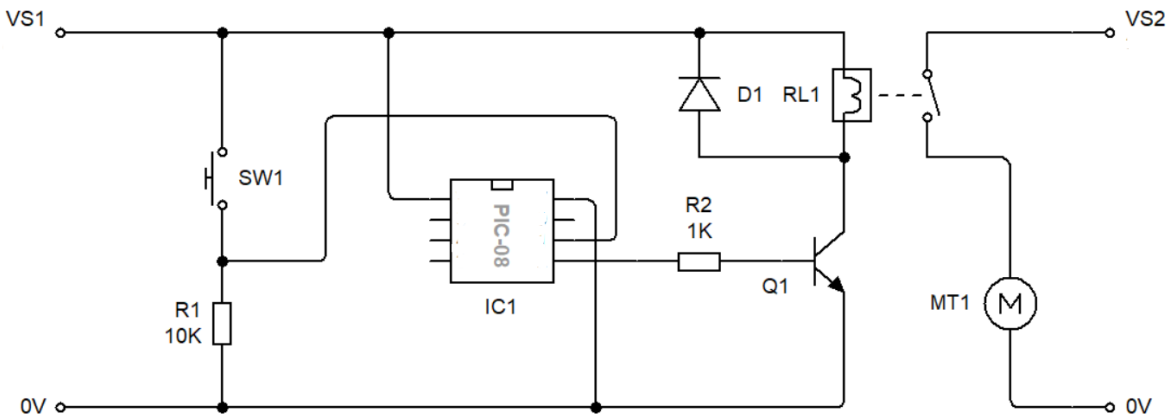

Figure 10
18. An interactive installation of a fire truck was put up on one of the kids' area walls. The installation consists of rotating parts to keep the kids occupied. Figure 10 shows the proposed circuit.
a. On Figure 10, circle the **TWO** components that are within the INPUT section of this system. (1)
b. SW1 functions as a non-latching switch. Name **ONE** suitable non-latching switch which is suitable for the intended users of this game. (1)
c. The circuit designer decided to add a latching switch to the circuit, in order to switch off the circuit completely. On Figure 10 indicate by drawing an X, where such a switch would be appropriately placed. (1)
d. Resistor R1 has the value of 10 K. From the given table write down the first **THREE** colour bands of the resistor. (3)
21. The system shown in Figure 10 (in Question 18) was designed to be controlled by microcontroller.